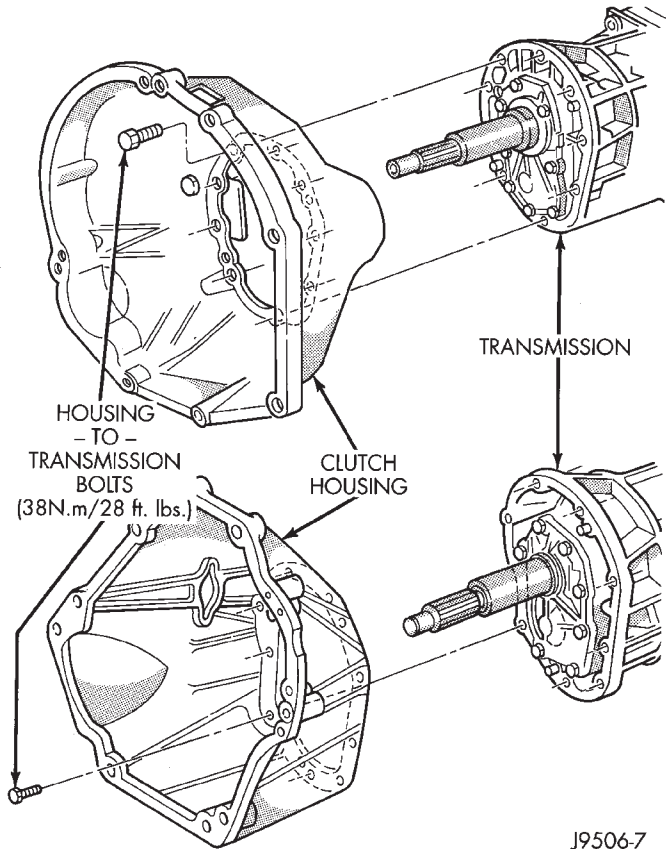

Fig. 9 Clutch Housing
(24) Remove clutch housing brace rod.
(25) Remove clutch housing-to-engine bolts.
(26) Pull transmission jack rearward until input shaft clears clutch. Then slide transmission out from under vehicle.
(27) Remove clutch release bearing, release fork, and retainer clip.
(28) Remove clutch housing from transmission (Fig. 9).
(1) Install clutch housing on transmission. Tighten housing bolts to 37 N·m (27 ft. lbs.) torque.
(2) Lubricate contact surfaces of release fork pivot ball stud and release fork with high temp grease.
(3) Install release bearing, fork, and retainer clip.
(4) Position and secure transmission on transmission jack.
(5) Lightly lubricate pilot bearing and transmission input shaft splines with Mopar® high temp grease.
(6) Raise transmission and align transmission input shaft and clutch disc splines. Then slide transmission into place.
(7) Install and tighten clutch housing-to-engine bolts to 38 N·m (28 ft. lbs.) torque (Fig. 9). **Be sure the housing is properly seated on engine block before tightening bolts.**
(8) Install clutch housing brace rod.
(9) Lower transmission approximately 7–8 cm (3 in.) for access to shift tower. Be sure transmission is in first or third gear.
(10) Reach up and around transmission and insert shift lever in shift tower. Press lever retainer downward and turn it clockwise to lock it in place. Then install lever dust boot on shift tower.